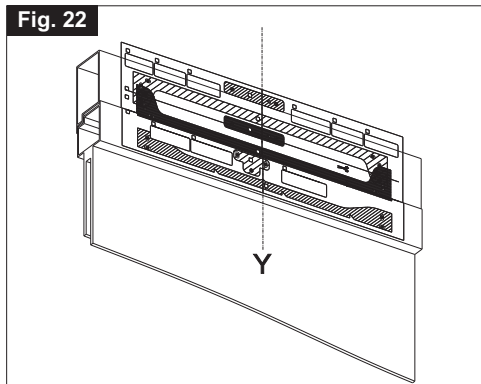

Fig. 23
- 4) Fig. 23- With a suitable drill, create on the window frame holes having the related diameter, given on the template;